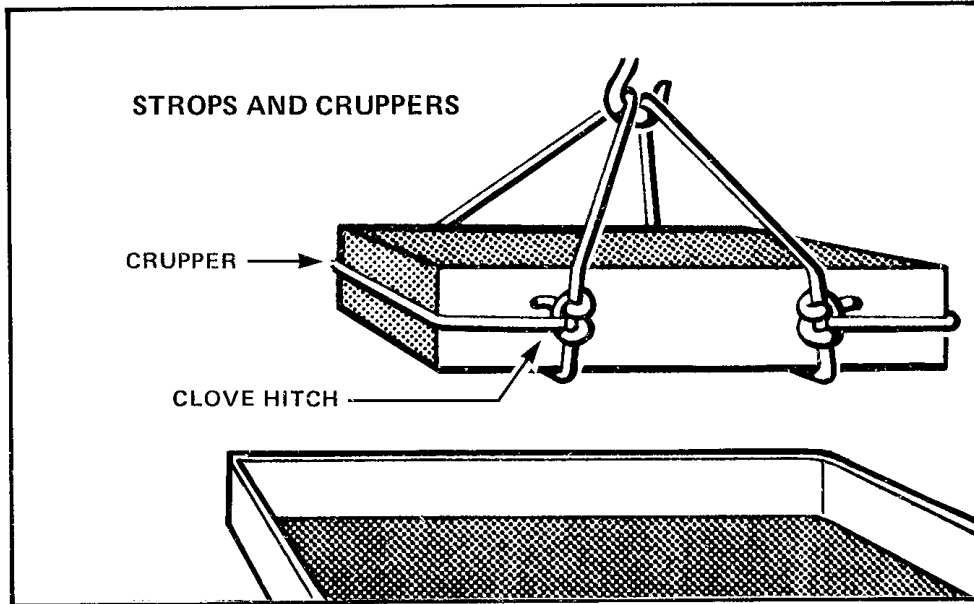

Figure 4-64 Strops and Cruppers
14. **Cruppers** — A heavy case without handles may be lifted using two strops of equal length, but you will sometimes need to fit a **crupper**, as shown in Figure 4-64 so that the strops are kept apart, and the case does not slip out.